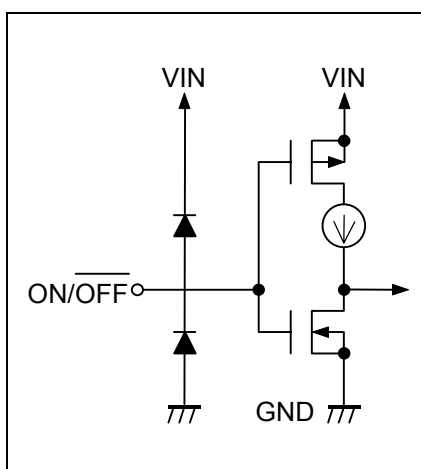

Figure 10
The structure of the ON/OFF pin is as shown in Figure 10. Since the ON/OFF pin is neither pulled down nor pulled up internally, do not use it in the floating state.
- The ON/OFF pin is configured as shown in Figure 10 and is neither pulled up or down internally, so do not use this pin in a floating state. When not using the ON/OFF pin, connect it to the VIN pin. Moreover, please do not apply voltage higher than VIN + 0.3 V to an ON/OFF pin. Current flows for a VIN pin through the protection diode inside IC.